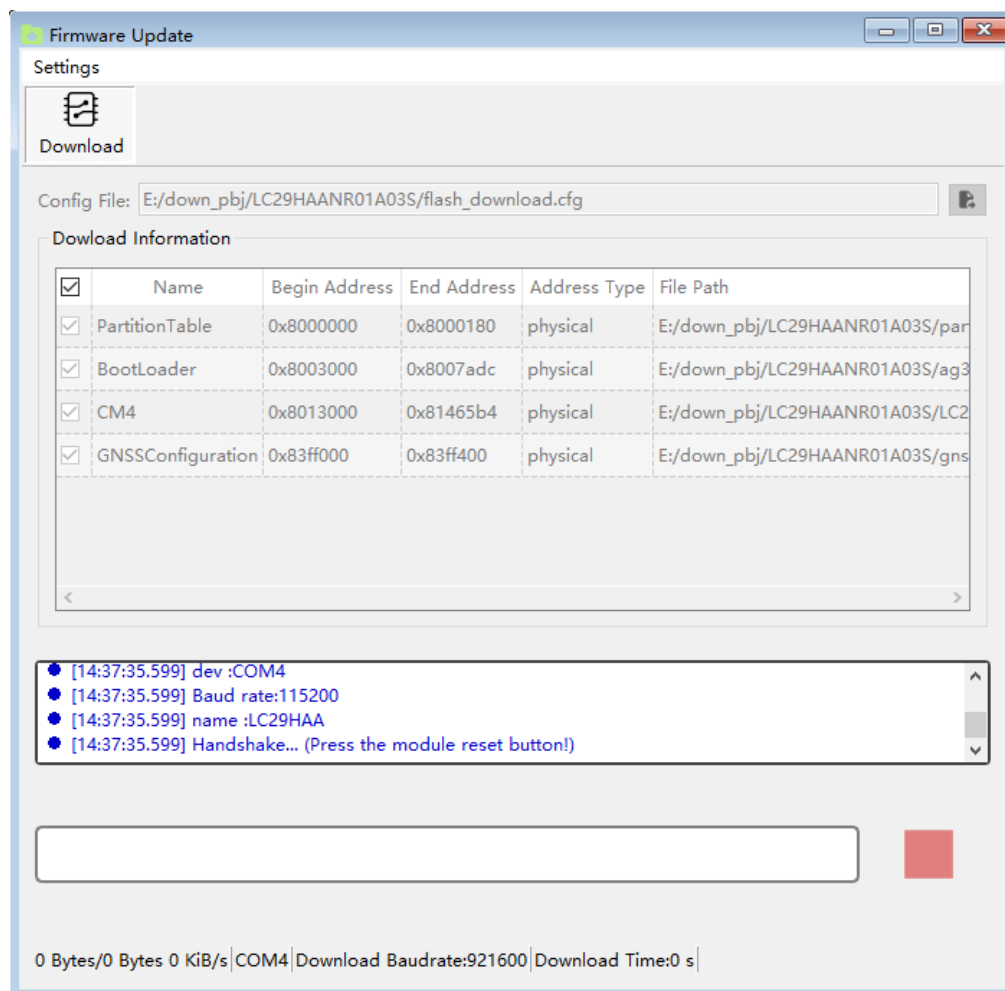

Figure 37: Wait for Handshake
Step 10: Click  to initiate the firmware upgrade process and wait for HANDSHAKE between the module and the PC as shown in Figure 37: Wait for Handshake. Reset module within 20 s. Otherwise, the firmware upgrade will fail. In this case, you can retry from **Step 10**.